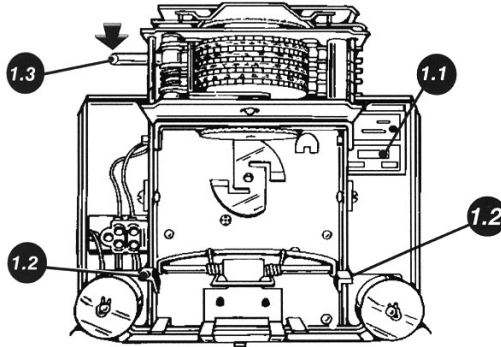

Figure 1
*Example: Since the fourth digit in the model number 2104 is a “4”, it will print with 00-59 minutes and 00-23 hours (see table above). The model number is located on the **Label 1.1** positioned as shown in **Figure 1**.*
4. Press either side of the **Type Section Headlock – 1.2** and pull upward on the lower part of the Clock Face until the Type Section locks in the up position as shown in **Figure 1**. Note position of the Overthrow Lever and the Setting Wheel.